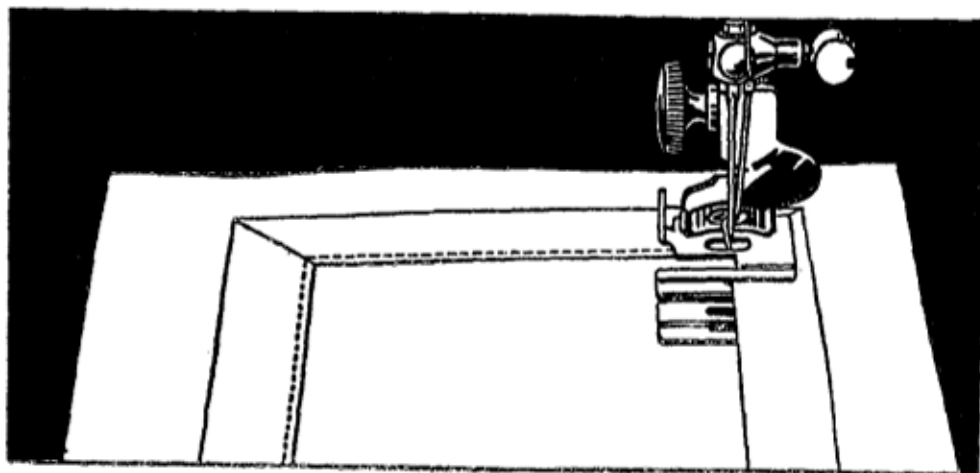

Fig. 58. Applying Bias Folded Tape
2. To make square corners, sew to turning point, remove tape from attachment, form corner by hand, replace tape and continue stitching. See Fig. 58.